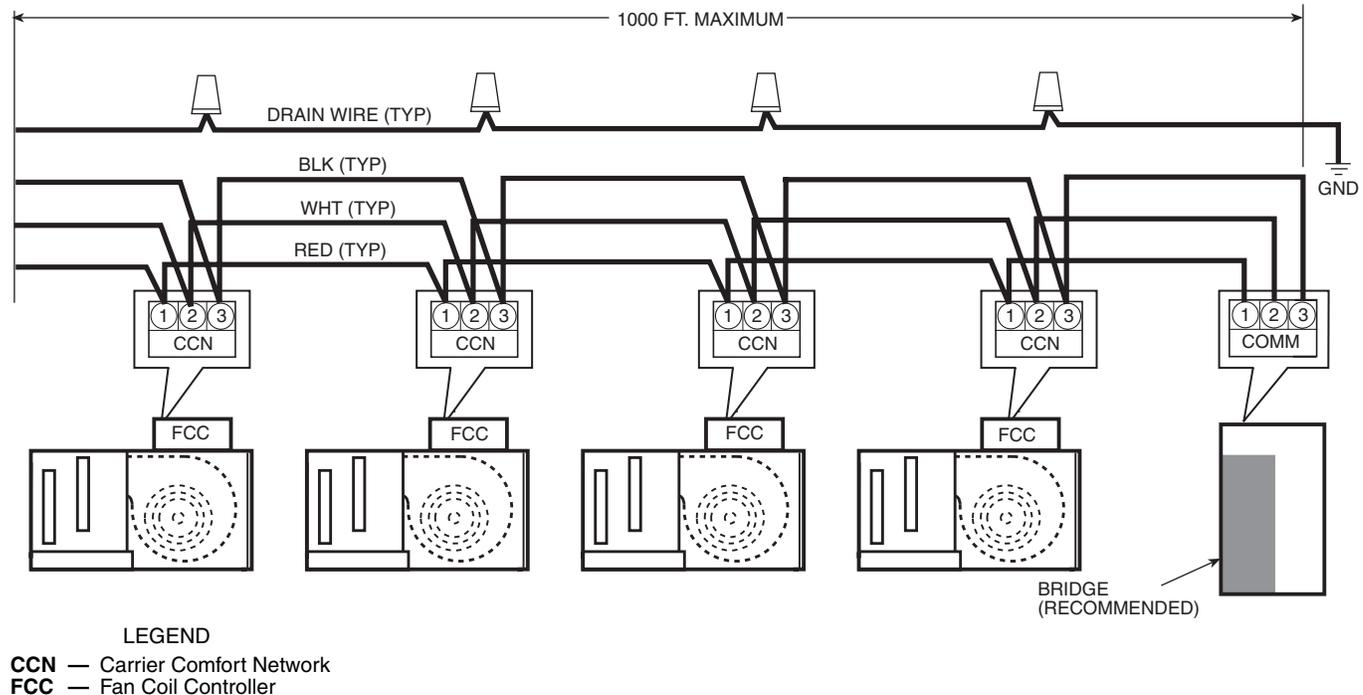

Fig. 32 — Communication Bus Wiring
The first fan coil controller in a network connects directly to the bridge and the others are wired sequentially in a daisy chain fashion. Refer to Fig. 32 for an illustration of CCN Communication Bus wiring.
4. Connect additional fan coil controllers in a daisy chain fashion, following the color coded wiring scheme in Table 4. Refer to Fig. 32.